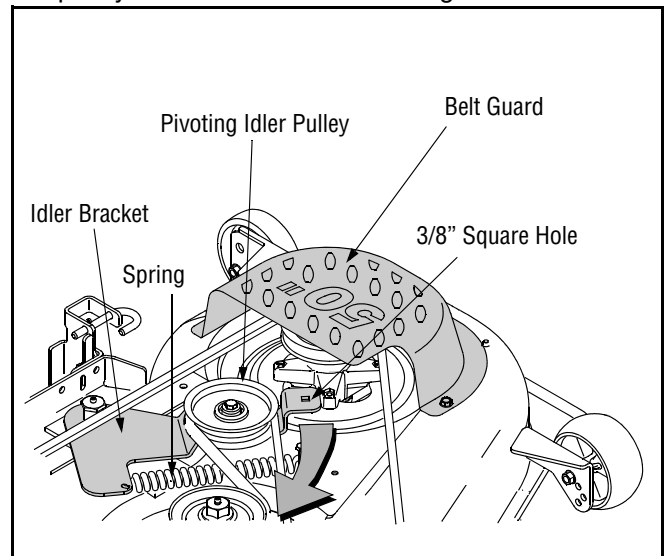

Figure 23
- To ease in removing the belt, loosen, but do not remove, the bolt which secures the pivoting idler pulley to the idler bracket. See Figure 23 ..
- Insert a 3/8"-drive ratchet wrench (set to *tighten*) into the square hole found in the idler bracket on the left side of the deck's surface. See Figure 23 .